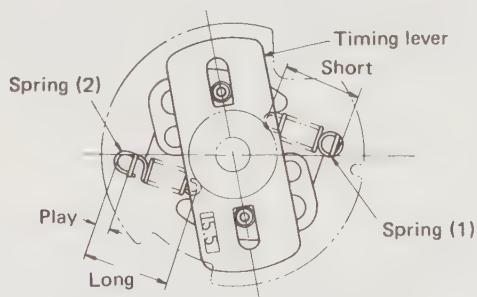
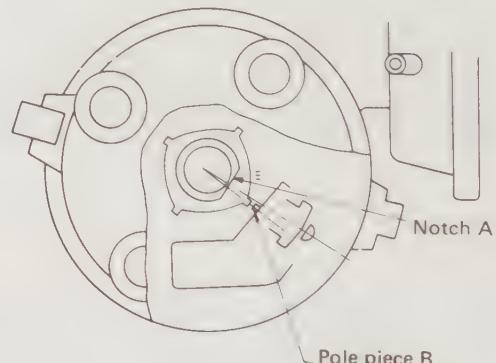
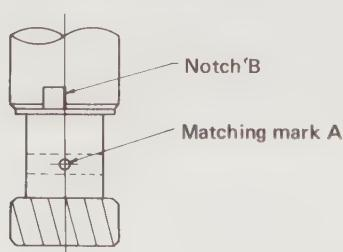

Fig. 4.8. Fitting the governor springs
Fig. 4.9. Fitting the pinion on the shaft
Fig. 4.10. Pinion to housing alignment marks
- 9 Assembly is the reverse of dismantling. When fitting the springs and rotor shaft, fit the spring with the longer free length to the starter hole side of the timing lever as shown in Fig. 4.8. Align the notch on the pick-up base with the grooved end of the housing. When fitting the pick-up coil, adjust the air gap to 0.012 - 0.016 in (0.3 - 0.4 mm). To refit the pinion, position notch 'A' on the rotor shaft opposite the pole piece 'B', as shown in Fig. 4.9, and align the mark 'A' on the pinion with the notch 'B' at the lower end of the housing as shown in Fig. 4.10.